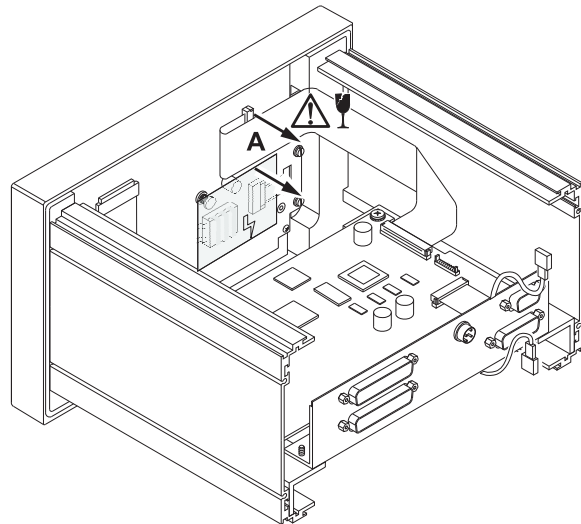

Fig. E 7-16: Removing the display connecting cable
2. Carefully remove the flat display connecting cable from the connector socket of the display (A). Avoid damage of the cable because of canting. (Fig. E 7-16)